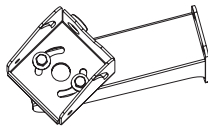

Figure 17
4. Complete steps 1-8 of the BMT10 instructions. Attach the BMT10 Tilt Bracket to the wall mount by using the (2) 3/8" hex head bolts and washers provided with the wall mount. The wall mount has (4) threaded inserts for the hex head bolts attach. By alternating the pattern of the (2) bolts you can achieve any pan angle you wish (Figures 17 and 18).